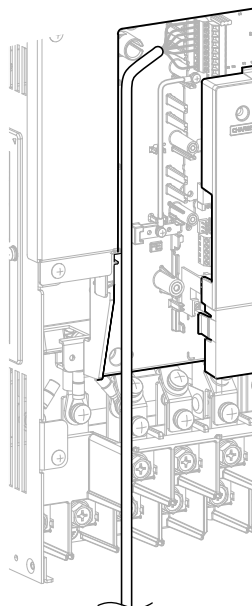

Figure 8.15 Wire Routing Examples
1. Route the communication wiring inside the enclosure as shown in Figure 8.15.